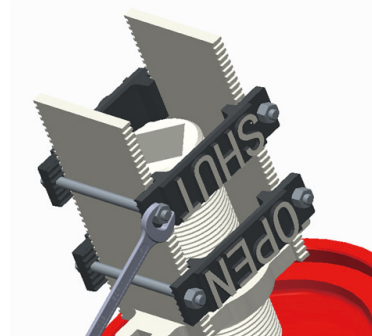

Figure 5
- 2.3 Loosen the fixing bolts and nuts of each SHUT (Figure 5), but do not remove the nuts. **Note:** the OPEN fixing bolts and nuts do not need to be adjusted.